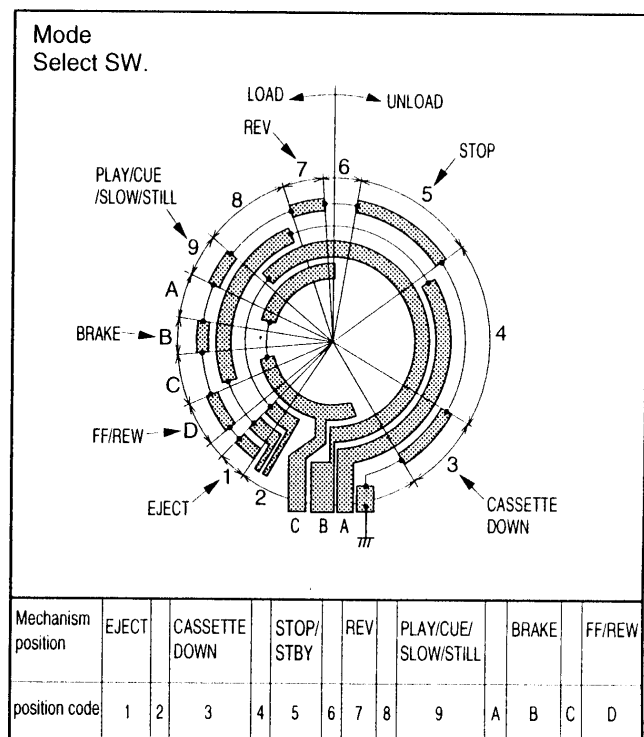

Fig. 27 - Explanation of Position Fault Code
3. Refer to Fig. 25 (Explanation of Fault Codes) and Fig. 27 (Mode Select Switch/Mechanism Position Codes) to determine the cause of failure.